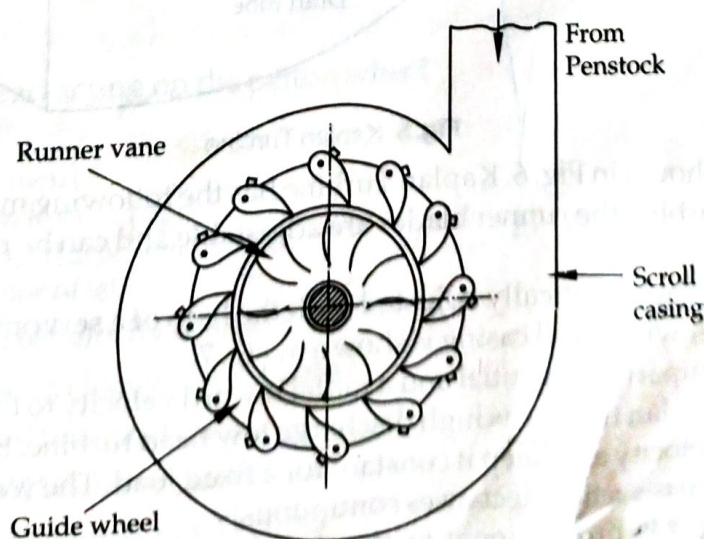

Fig. 5 Runner with scroll casing
(5) Runner: The runner of Francis turbine is a circular wheel on which a series of radial curved vanes are fixed. The radial curved vanes are so shaped that the water enters and leaves the runner without shock. The number of runner blades varies between 16 to 24. The runner is keyed to the shaft which is coupled to the generator shaft. A runner with the scroll casing is shown in Fig. 5.